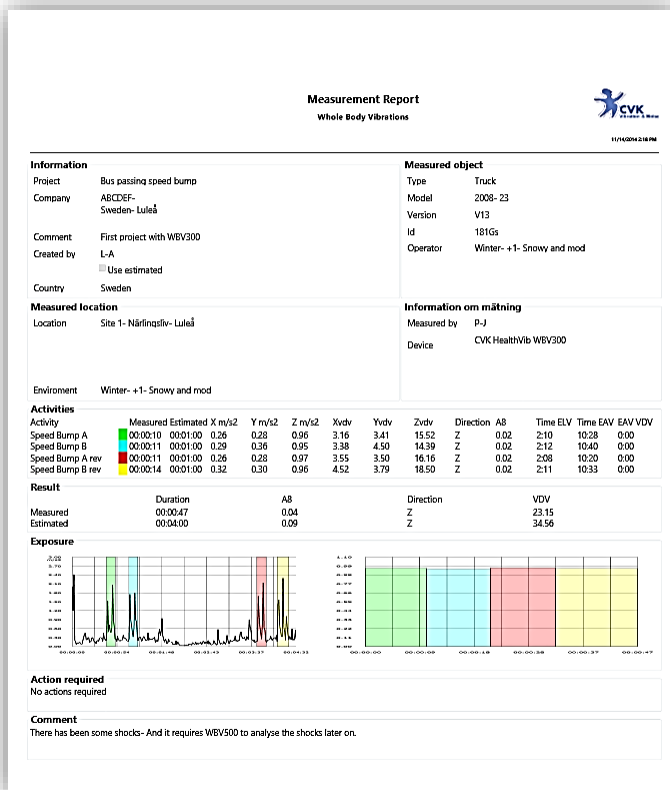

Figure 26: VibNoiseView Report preview
5. Press "Save" button on unit and close the Calibrate window. (See figure 26)